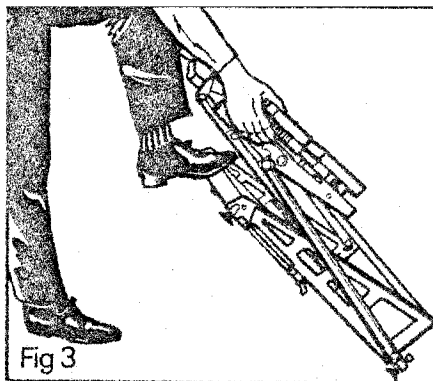

Fig 3
- 3 Place one foot on the foot board boss and exert a downward pressure to open the Workmate keeping both safety catches in the lifted position, see Fig. 3.